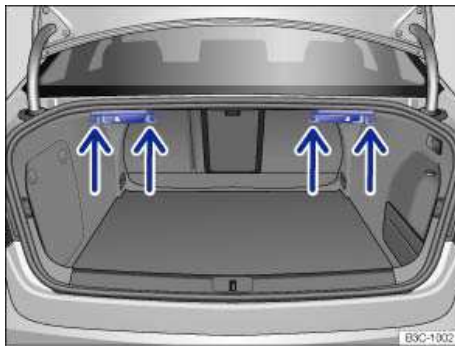

Fig. 105 In the luggage compartment: Shopping bag hooks.
- Hang the bags on the shopping bag hooks as shown in ⇒ fig. 105 (arrow).